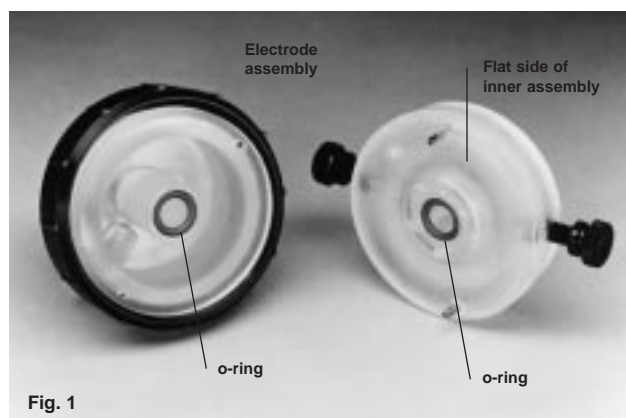

Fig. 1
1. Place a small o-ring in the central hole on the flat side of the inner assembly (Figure 1), and a large o-ring in the large groove around the central ring on the other side of each electrode assembly.